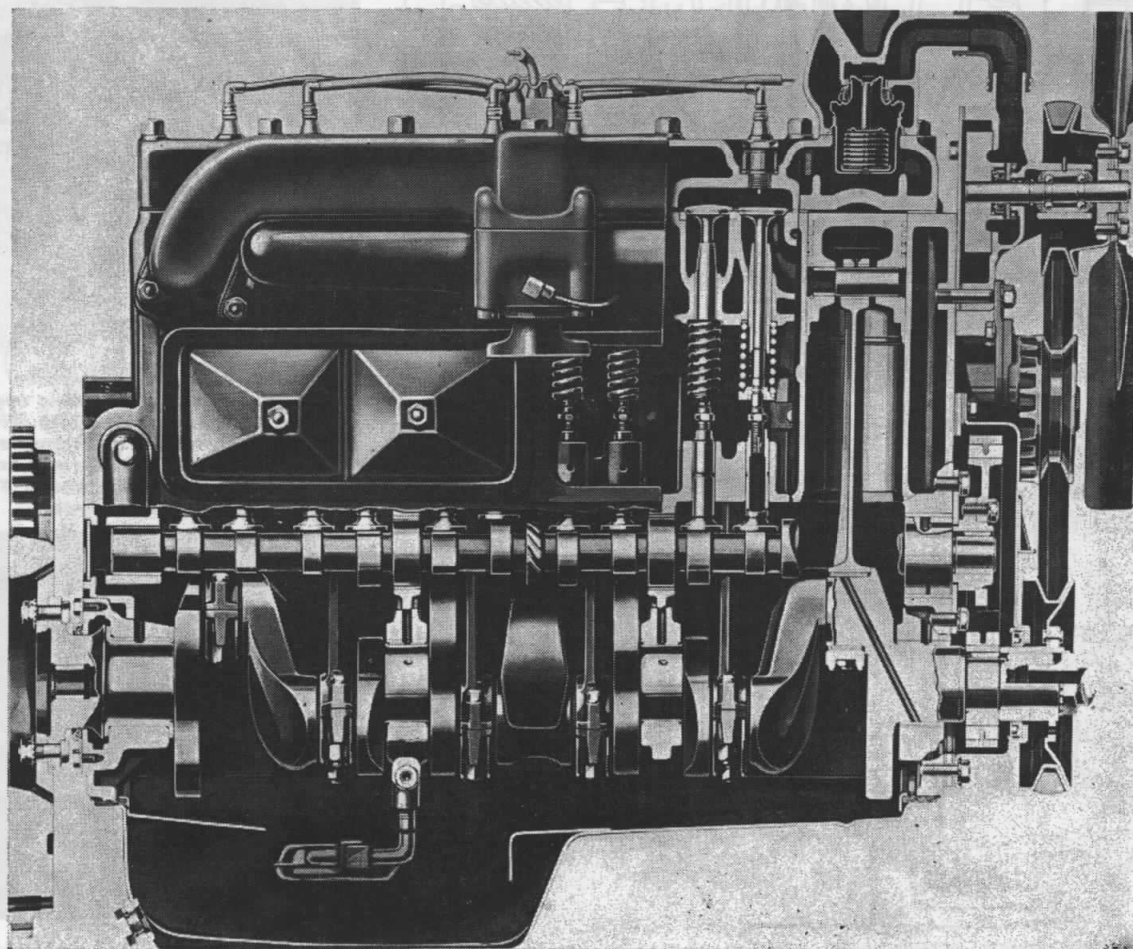

Fig. MH128—Chrysler 6 cylinder engine cross section side view.
40. Self locking or locknut, mushroom type tappets are used and may be removed after camshaft is out. See Figs. MH128 and MH129. Tappet bores in cylinder block may be reamed to permit installation of oversize tappets,